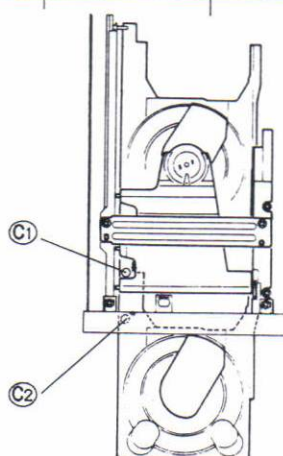

Fig. 9-4.
2. Remove screws $\textcircled{C1}$, $\textcircled{C2}$ holding tray 1 in Fig. 9-4.